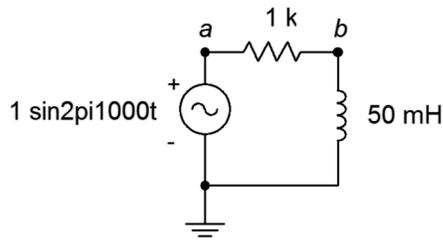

Figure 2.12
20. Determine the impedance of the circuit of Figure 2.12.
- 21. Determine the impedance of the circuit of Figure 2.12 using a frequency of 10 kHz.
- 22. For the circuit of Figure 2.12, determine the circulating current and the voltages across each component. Also find the time delay between the voltages of the components.
- 23. For the circuit of Figure 2.12 with a frequency of 3 kHz, determine the circulating current and the voltages across each component. Also find the time delay between the voltages of the components.
59. Redesign the circuit of Figure 2.12 using a new frequency such that the current magnitude from the source is  $200\ \mu\text{A}$ .
61. For the circuit of Figure 2.12, determine a new frequency such that  $|X_L| = R$ .